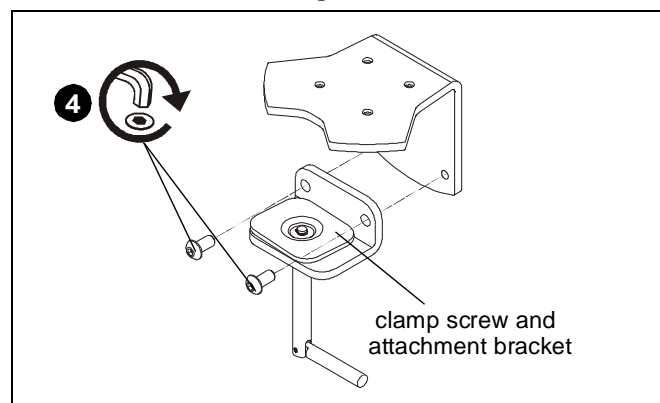

Figure 3
NOTE: If space is limited behind desk (i.e. against wall, etc.), remove clamp screw and attachment bracket entirely. (See Figure 3)
4. If removed, reattach clamp screw and attachment bracket below desk. (See Figure 3)